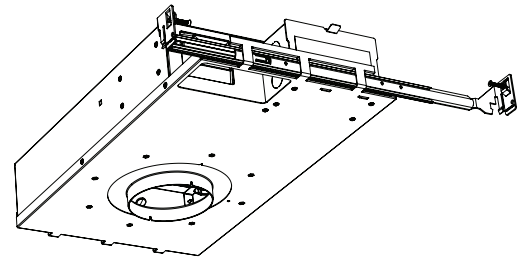

fig. 3
- Insert the outer nailer bar into the same housing clasps, locking the inner and outer halves together. Make sure the screw is on top (see fig. 3).
- Screw the ends of both bars into the wooden joists, fixing the housing in place (see fig. 3).